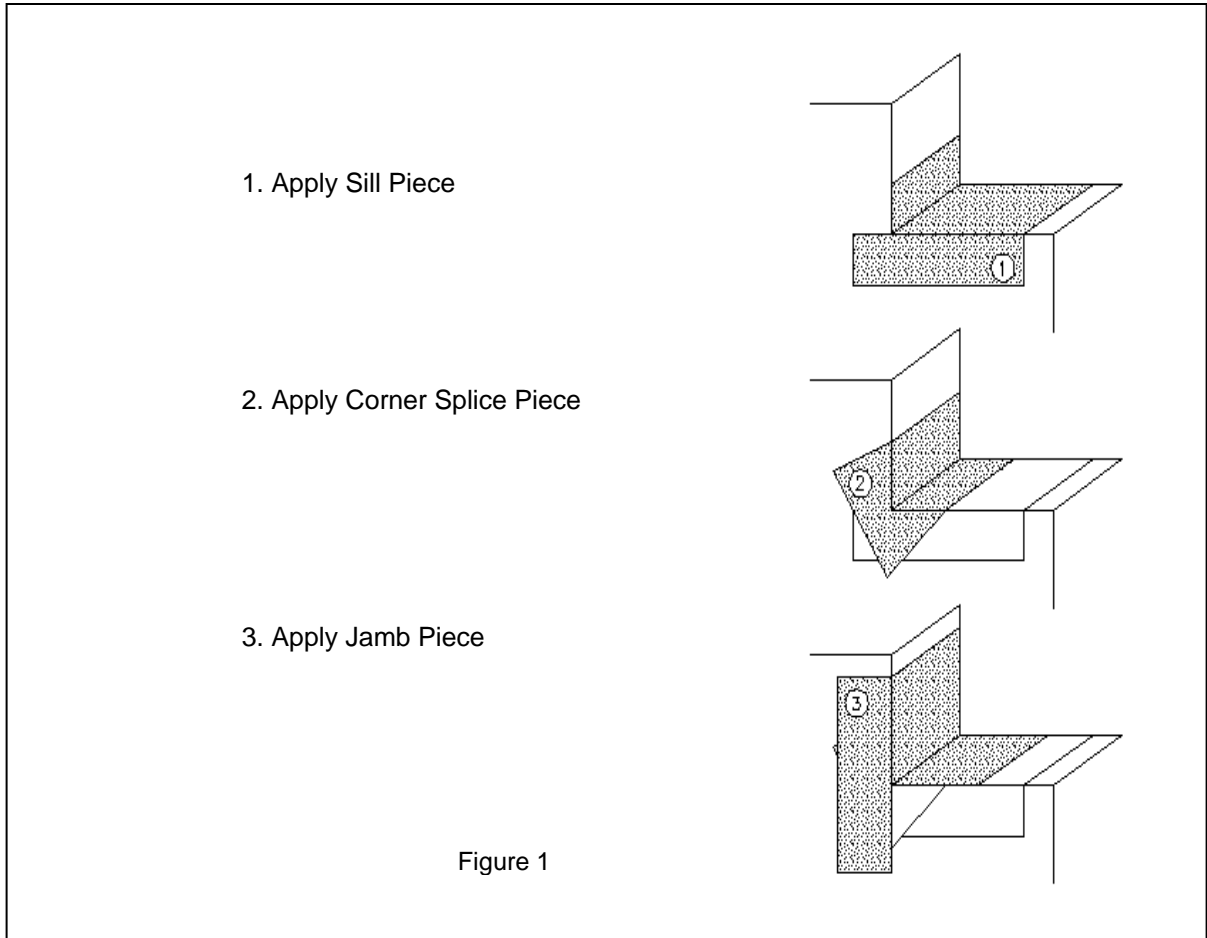

Figure 1
- 1) Apply the Dryvit Flashing Tape as shown in the detail below - Figure 1.